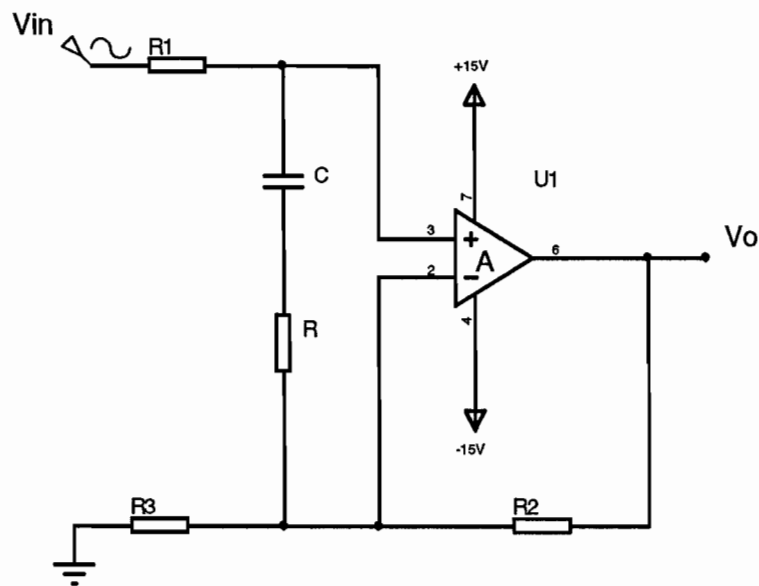

Fig. 3
- d) An example of input frequency compensation is shown in Fig 3.